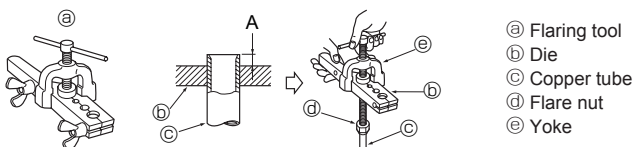

Fig. 4-6
4.2.4. Flaring work (Fig. 4-6)